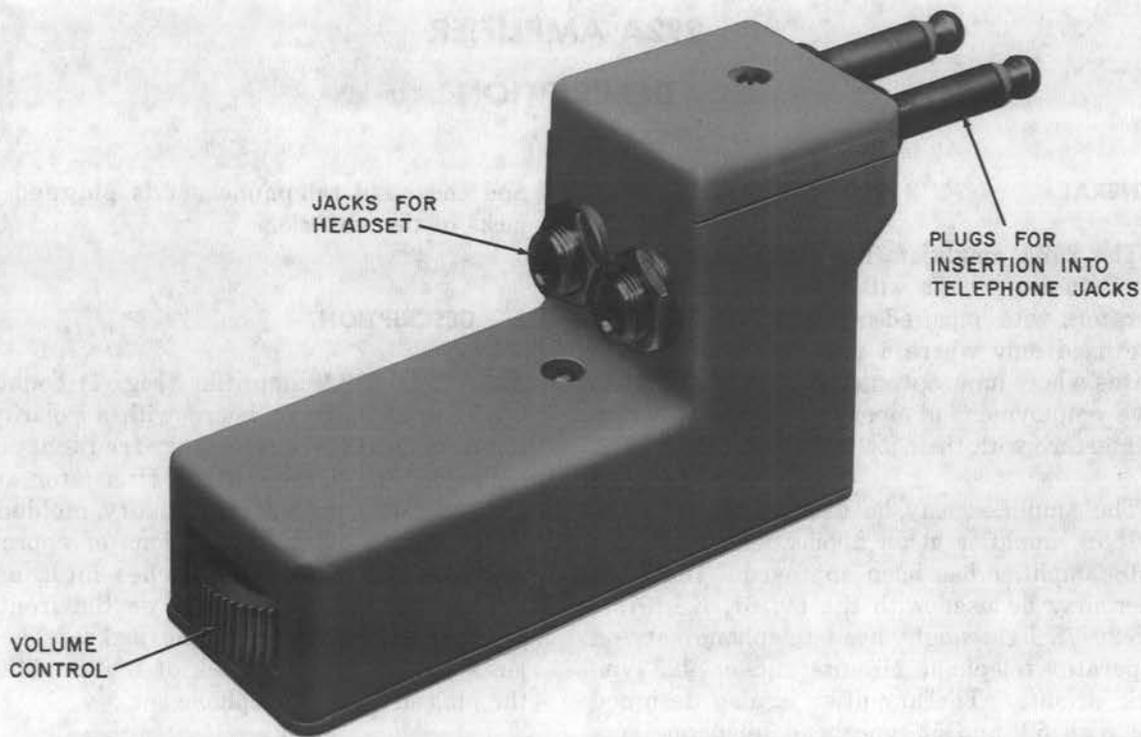

Fig. 1—292A Amplifier
1.01 The 292A amplifier (Fig. 1) is intended for use in conjunction with a head telephone set for operators with impaired hearing. The amplifier is to be used only where a real need exists, such as in cases where its use would permit the continued effective employment of operators whose hearing losses interfere with their job performances.
2.01 The 292A amplifier (Fig. 1) consists of a printed circuit board with a polarity guard, input isolating transformer, frequency shaping network, and a three-stage transistor amplifier. The unit is encased in an ivory molded plastic housing with overall dimensions of approximately 1-1/2 inches wide, 2-1/4 inches high, and 5-1/2 inches long. The two plugs on the front are for plugging into the telephone jacks. The pair of jacks provided on the back of the amplifier accept the plug of a head telephone set.